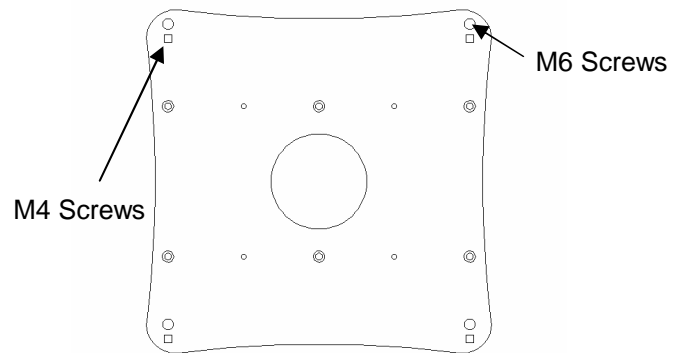

Figure 11. VESA Plate Mounting Holes
3. Depending on mounting hole size and depth, attach VESA Plate (20) by selecting applicable screws size, as follows (see Figure 11):
- a. Use four M4 x 20mm pan head screws (100) and square holes to attach VESA Plate (20). Or,
- b. Use four M6 x 20mm pan head screws (110) and round holes to attach VESA Plate (20). Or,
- c. Use four M6 x 30mm pan head screws (120) and round holes to attach VESA Plate (20). Or,
- d. Use four M6 x 45mm pan head screws (130) and round holes to attach VESA Plate (20).